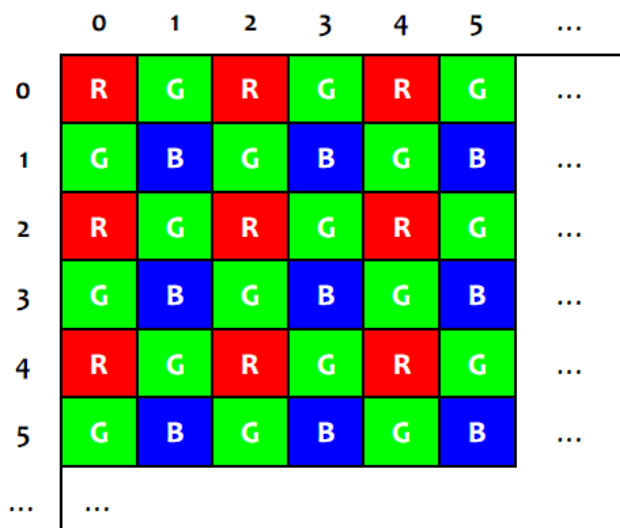

Figure 3-9 Bayer format
- 2) Bayer color conversion: The Bayer type is the formatting of RAW image data, see Figure 3-9, when the image data is processed or displayed, it needs to convert it to a 24 bits RGB real color image data. A simple interpolation algorithm is as follows: